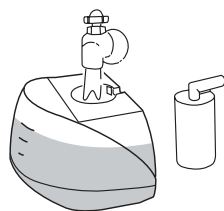

Fig.4
3. Fill the water tank up to or below the "MAX" fill line with clean tap water. Fig.4